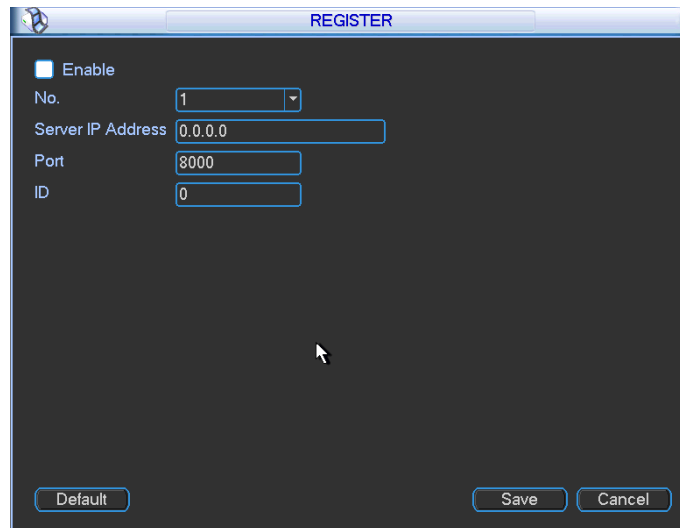

Figure 4-53
1) The setup interface is shown as in Figure 4-53.
3) Now you can add device. Please do not input default port number such as the TCP port in the mapping port number. The device ID here shall be the same with the ID you input in Figure 4-53. Click Add button to complete the setup.